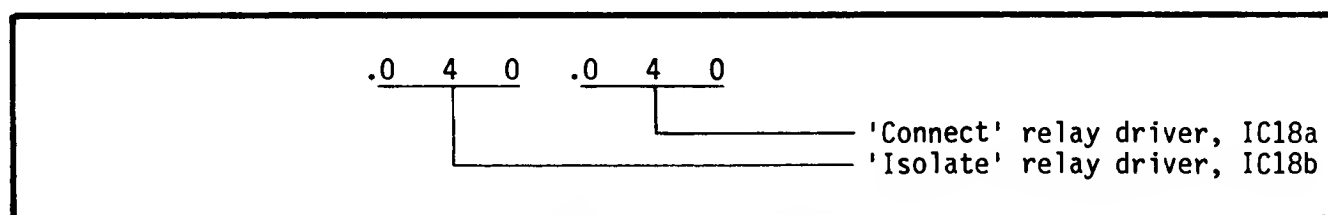

Fig. 7.16 Monostable Timing Display
7.7.5.9.1 Activate special function 52. The frequency display will show the pulse lengths of the RPPU drive monostables, as shown in Fig. 7.16.